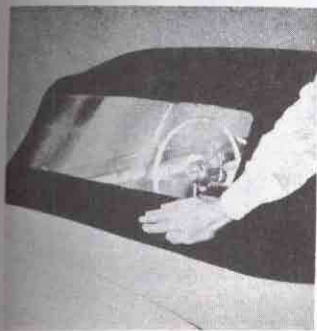

Fig. 45—Pushing Down
9. Turn around, depress the rear bow catches, insert the ratchet lever in the hole in the top lid and then push down tightly from the outside to permit the latch to catch (fig. 45).